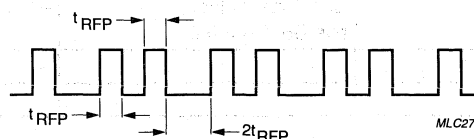

Fig.13 Timing of the 32768 Hz reference signal.
- 32768 Hz reference signal: 32 pulses per 75 clock cycles, alternately separated by 1 or 2 pulse periods (pulse duration:  $t_{RFP}$ ). The timing is shown in Fig.13.